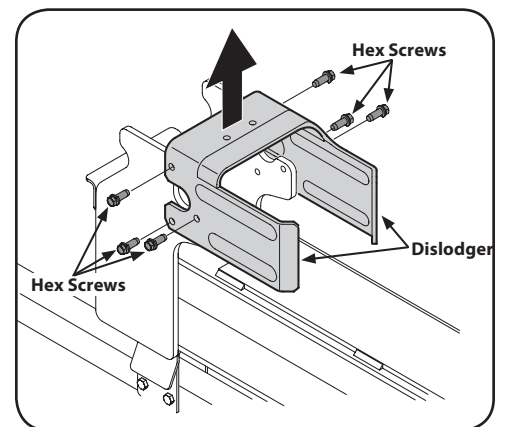

Figure 3-4
14. Disconnect the dislodger from the beam weld bracket by removing the six hex screws. See Figure 3-4.
- Attach the dislodger over the wedge assembly and secure it to the weld brackets with the hardware removed in Step 14. See Figure 3-4.